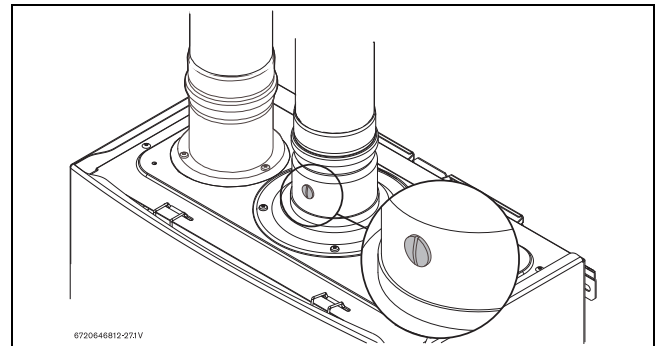

Fig. 72 Measuring port
- ▶ Remove brass flat head screw on the exhaust collar as seen in Fig.72.